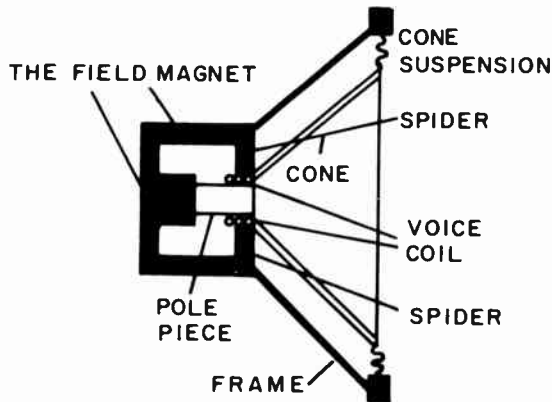

FIG. 9-32. THE P.M. LOUDSPEAKER.
**THE PM SPEAKER.** The operation of a loudspeaker is very similar to the operation of headphones. Fig. 9-32 illustrates a modern loudspeaker. The major parts of the PM loudspeaker are:
(1) The Field Magnet: It is a strong permanent magnet made of a magnetic alloy, such as alnico steel.